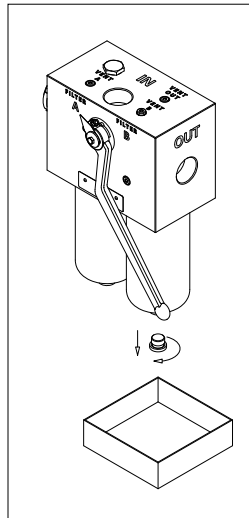

fig. 24
- (Fig. 24) Unscrew the drain plug after placing a vessel to collect the operating fluid